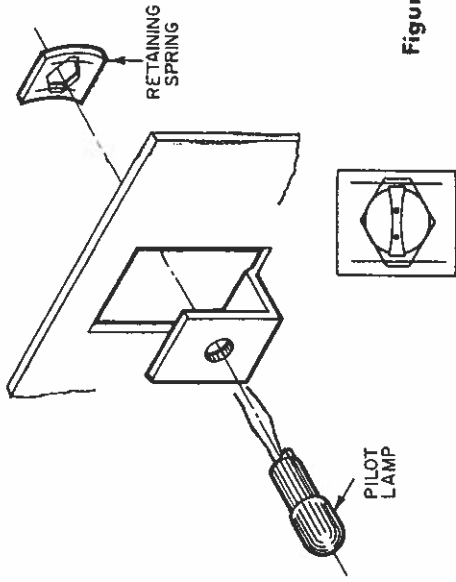

Figure 1-3
**Step 1C**  Mount the neon pilot lamp in the hole in the center of the panel, as shown in Figure 1-3. First insert the bulb in the hole from the front of the panel and rotate it as shown. Place the retaining spring over the other end of the bulb in the position shown, with the bulb leads through the hole in the spring. Force the spring down over the bulb (with your pliers, if necessary).